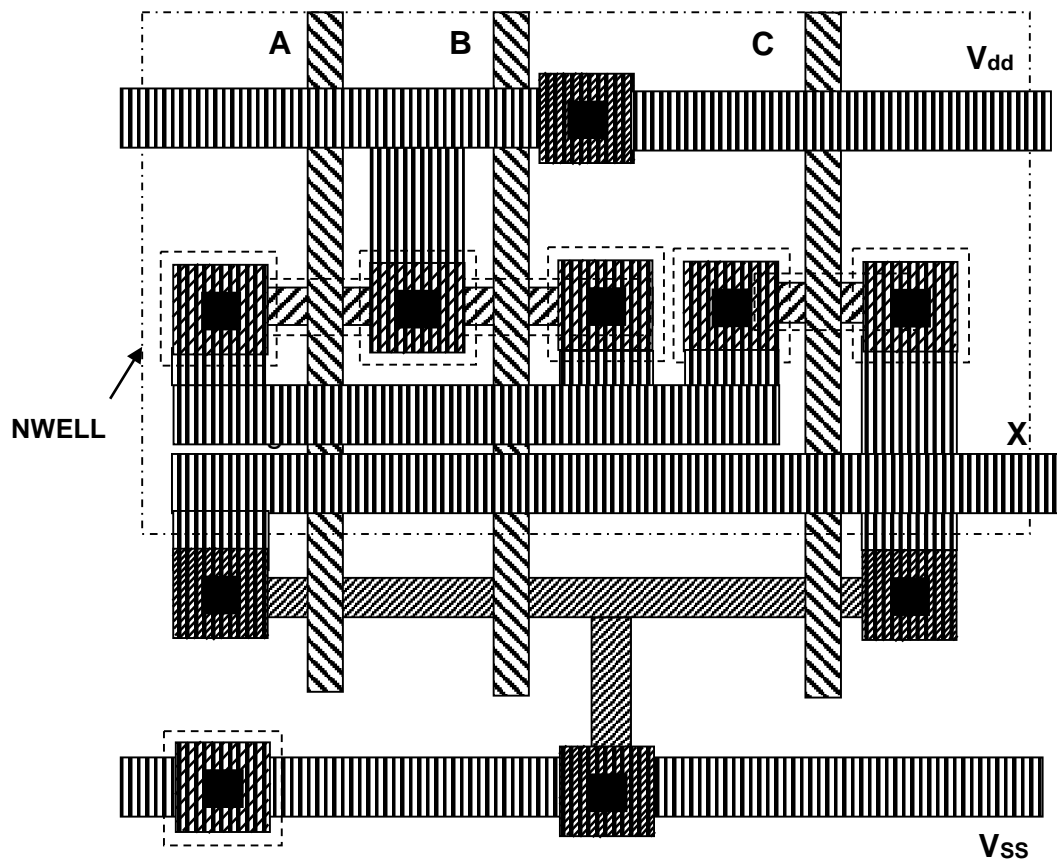

Figure Q1
- (b) For the CMOS layout shown in Figure Q1,